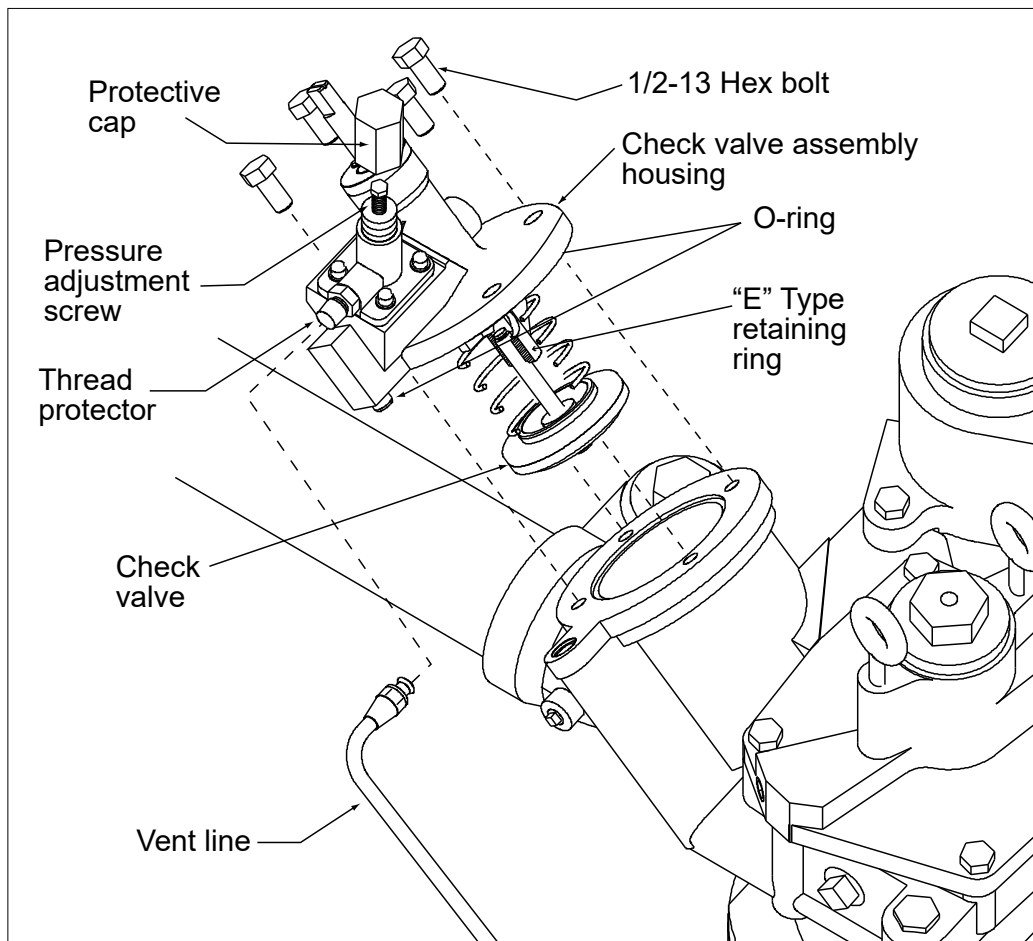

Figure 1. Maxxum Check Valve Assembly
1. Relieve system pressure by removing the protective cover and then backing out the pressure adjustment screw (see Figure 1).